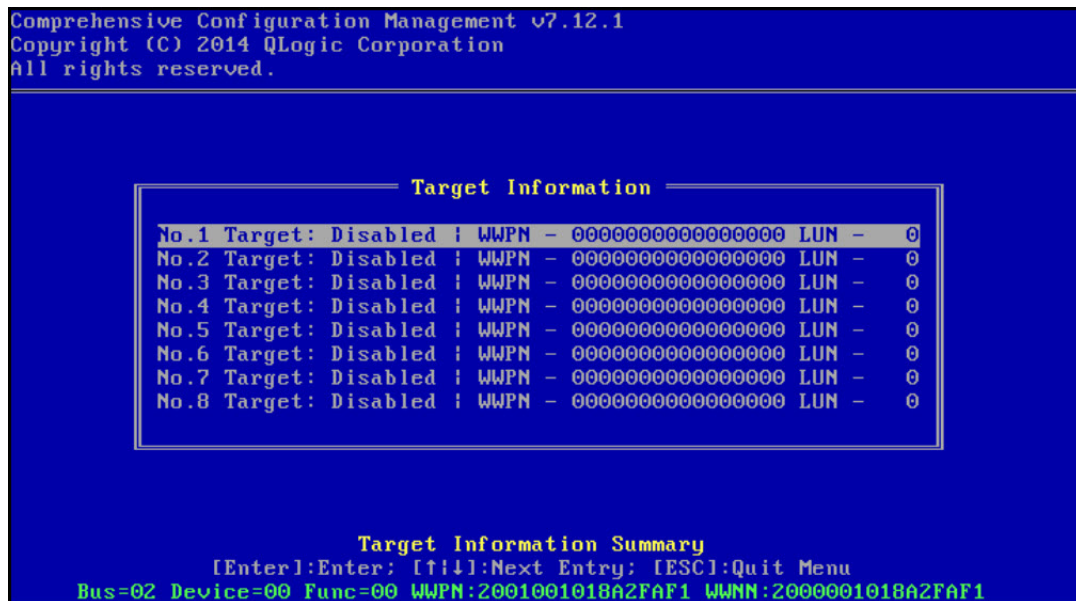

Figure 14-5. CCM Target Information
5. Configure the boot target and LUN. From the **Target Information** menu, select the first available path (Figure 14-5).